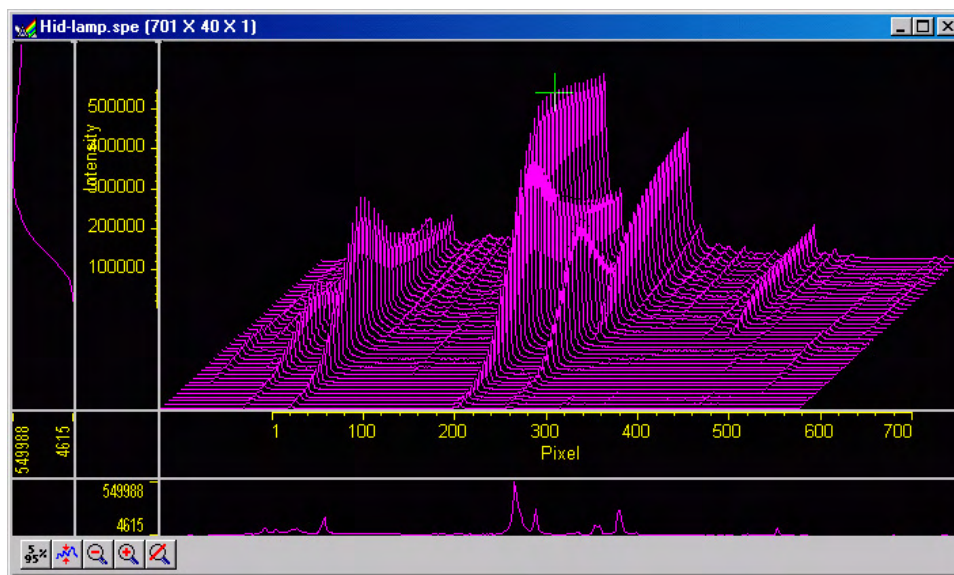

Figure 84. *Hid-lamp.spe* 3-D Graph
6. Click on **OK**. The Display Layout dialog box will close and the data display, exclusive of the intensity profiles, should appear as shown in Figure 84. Each strip is displayed as a plot of intensity vs. pixel number. The first strip is at the front and the last strip is at the back. Initially the cursor will be at the lower left. Use the up arrow key to move to a higher numbered strip and the right arrow key to move to a higher numbered pixel on the strip. Then click the Intensity Autoscale key to scale the
8. Note the cross sectional displays in Figure 84. The vertical cross-section profiles the intensity at the same point on each successive strip. The horizontal cross-section profiles the intensity at each point on the same strip. If the large cursor is selected, cursor projections will intersect the cross section to show indicate the cursor position. These projections may not be visually aligned with the cursor position on the main plot. This effect will be particularly noticeable with a long Z axis. Because of perspective effects, the higher numbered strips will be further away and visually smaller. The axes automatically adjust so that they read true for the strip on which the cursor is located. However, because the cross-section profiles expand to use all of the available space, they will not be in alignment visually with the cursor. The profile shapes will be correct, and the point on the profiles intersected by the large cross-hair extensions will accurately indicate the cursor position. Also, the information box will accurately report the pixel number and intensity at the cursor position.